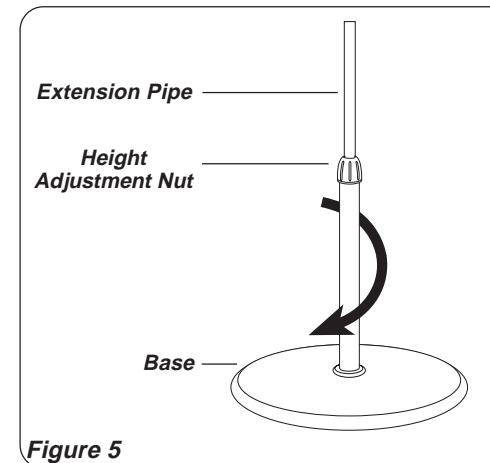

Figure 5
1. With a twisting motion, insert the end of the large diameter pipe into hole in **Base**. (Figure 5) Turning pipe while pushing will assure pipe is fully seated in **Base**.